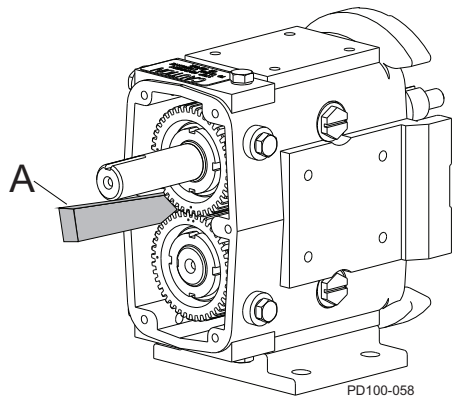

Figure 194 - Block Shaft Rotation
- Prevent the shafts from turning by placing a wedge or soft dowel between the gears (Figure 194, item A). Use a gear nut driver tool (see below) to remove the gear locknut. The gears will be removed later.